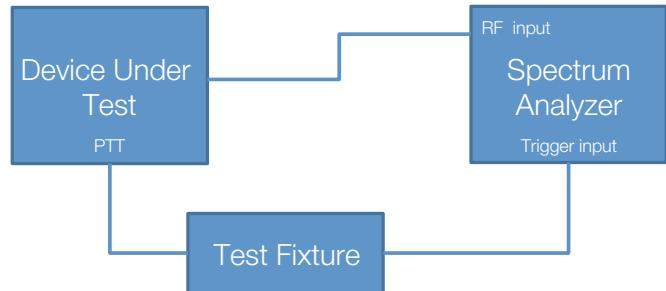

Figure 14. Test set-up for most triggered P25 measurements.
- **Connectivity:** The user will provide the trigger signal to the Spectrum Analyzer. The test needs to be set-up with a test fixture that creates the trigger signal as shown on Figure 14. This trigger signal is aligned with the Push to Talk control switch of the radio.
- **Connectivity:** The user will provide the trigger signal when the noise generator changes from no signal to band limited pink noise signal. The user connects the trigger to the Spectrum Analyzer trigger input. Tektronix RSA5000 needs to be operated in triggered mode as shown in Figure 14. The actual RF input to the Spectrum Analyzer comes after the noise signal from the source has passed through the DUT and calibrated receiver.
- **Connectivity:** The user will provide a trigger of when the signal is switched on or off. The user connects the trigger signal to the Spectrum Analyzer trigger input. Tektronix RSA5000 needs to be operated in triggered mode as shown in Figure 14.